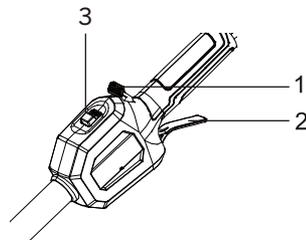

Fig. 10
1. Press the lock-off switch (1) (Fig.10).
2. While continuing to press the lock-off switch, squeeze the trigger switch (2).
### The two-speed gear box switch (Fig. 10)(3)